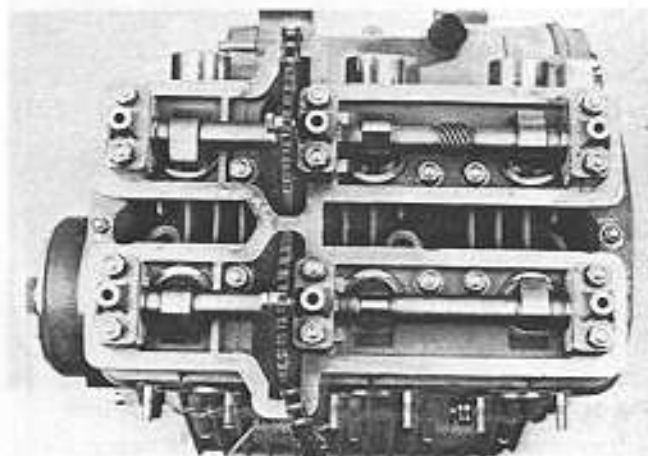

Fig. 38
- Progressively loosen the cylinder head nuts and the bearing block securing nuts proceeding in the order shown in figure 38. Remove all the nuts.